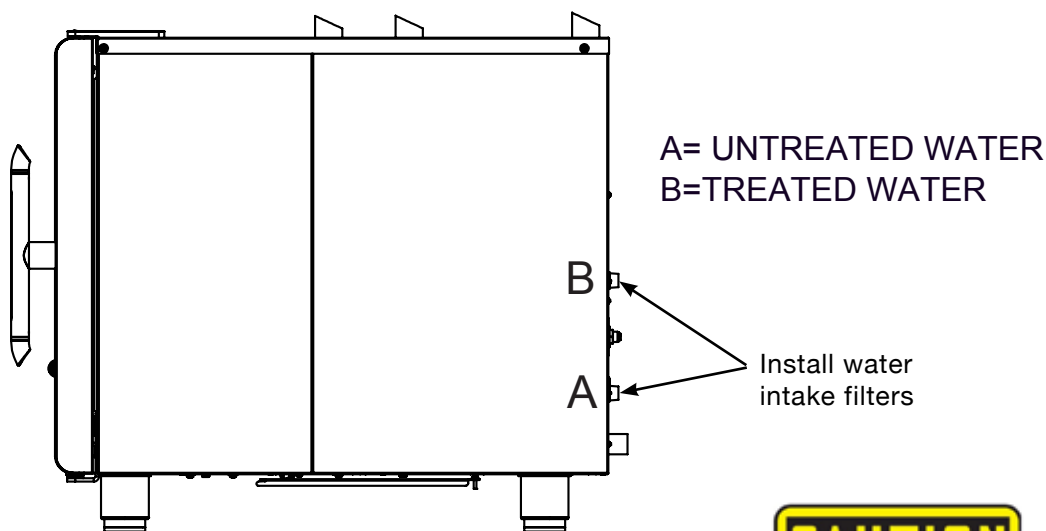

Figure 1
- Install water intake filters (provided) [see Figure 1] before connecting the oven to the water supply.